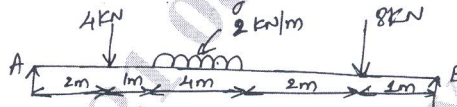

Fig.Q5
- 5 Draw the SFD and BMD of the simply supported beam loaded as shown in Fig.Q5.